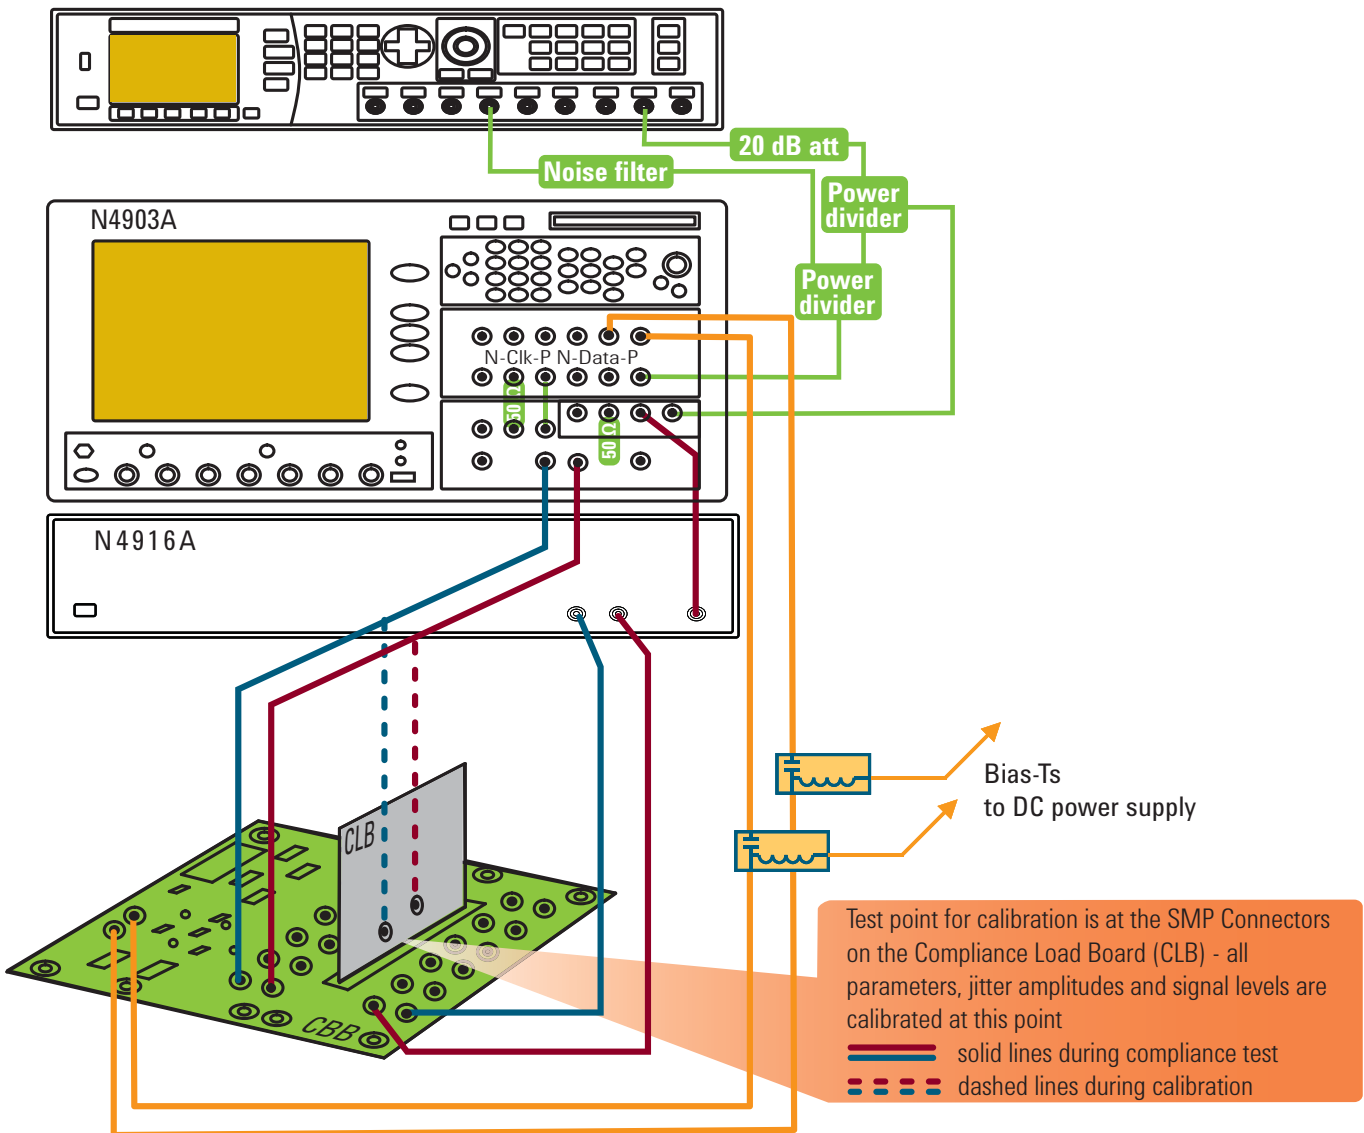

Figure 11. Schematic connection diagram between J-BERT and CBB
Figure 11 visualizes the necessary connections between J-BERT/81150/ N4916A and the compliance base board (CBB). A list of required instruments, options and accessories can be found in the appendix at the end of this document.
- Connect the J-BERT with the 81150A, the N4916A, the accessories, and the CBB/CLB, as shown in Figure 11.
- Connect all instruments as shown in Figure 11